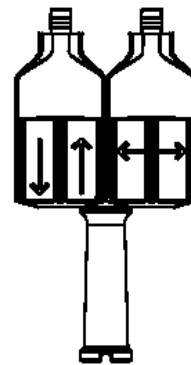

Figure 4-1 4 Lever Pendant Control
- 4.3.1 Pendant Control - When using the pendant control depress the Up lever to raise the hoist's hook or the Down lever to lower the hoist's hook as shown in Figure 4-1. Depress the Left and Right levers to move the trolley horizontally. To stop motion release the levers.